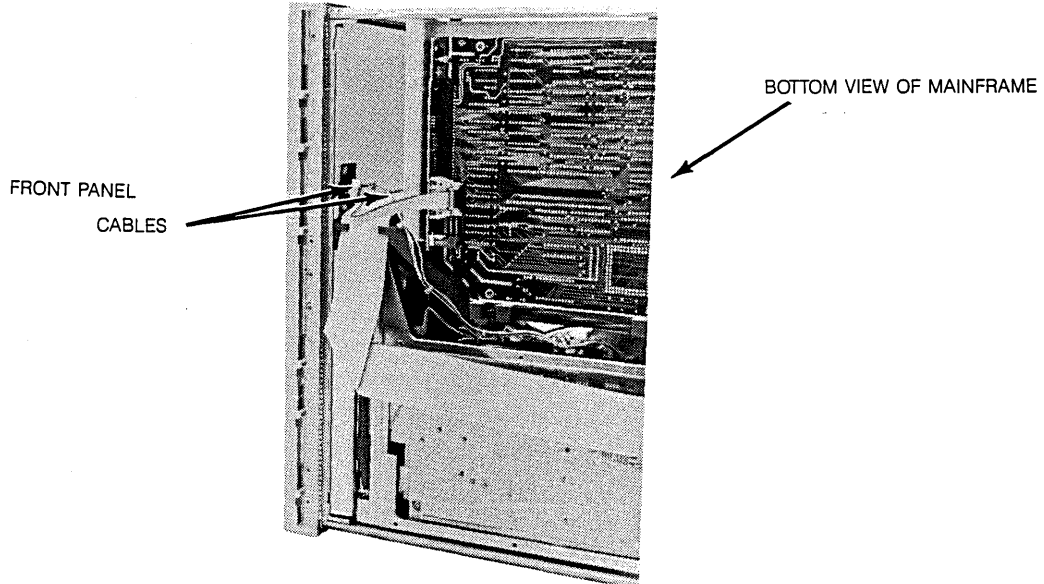

Figure 6-39. Front Panel Cable Removal
- b. Disconnect the two cables from front panel board (see figure 6-39).